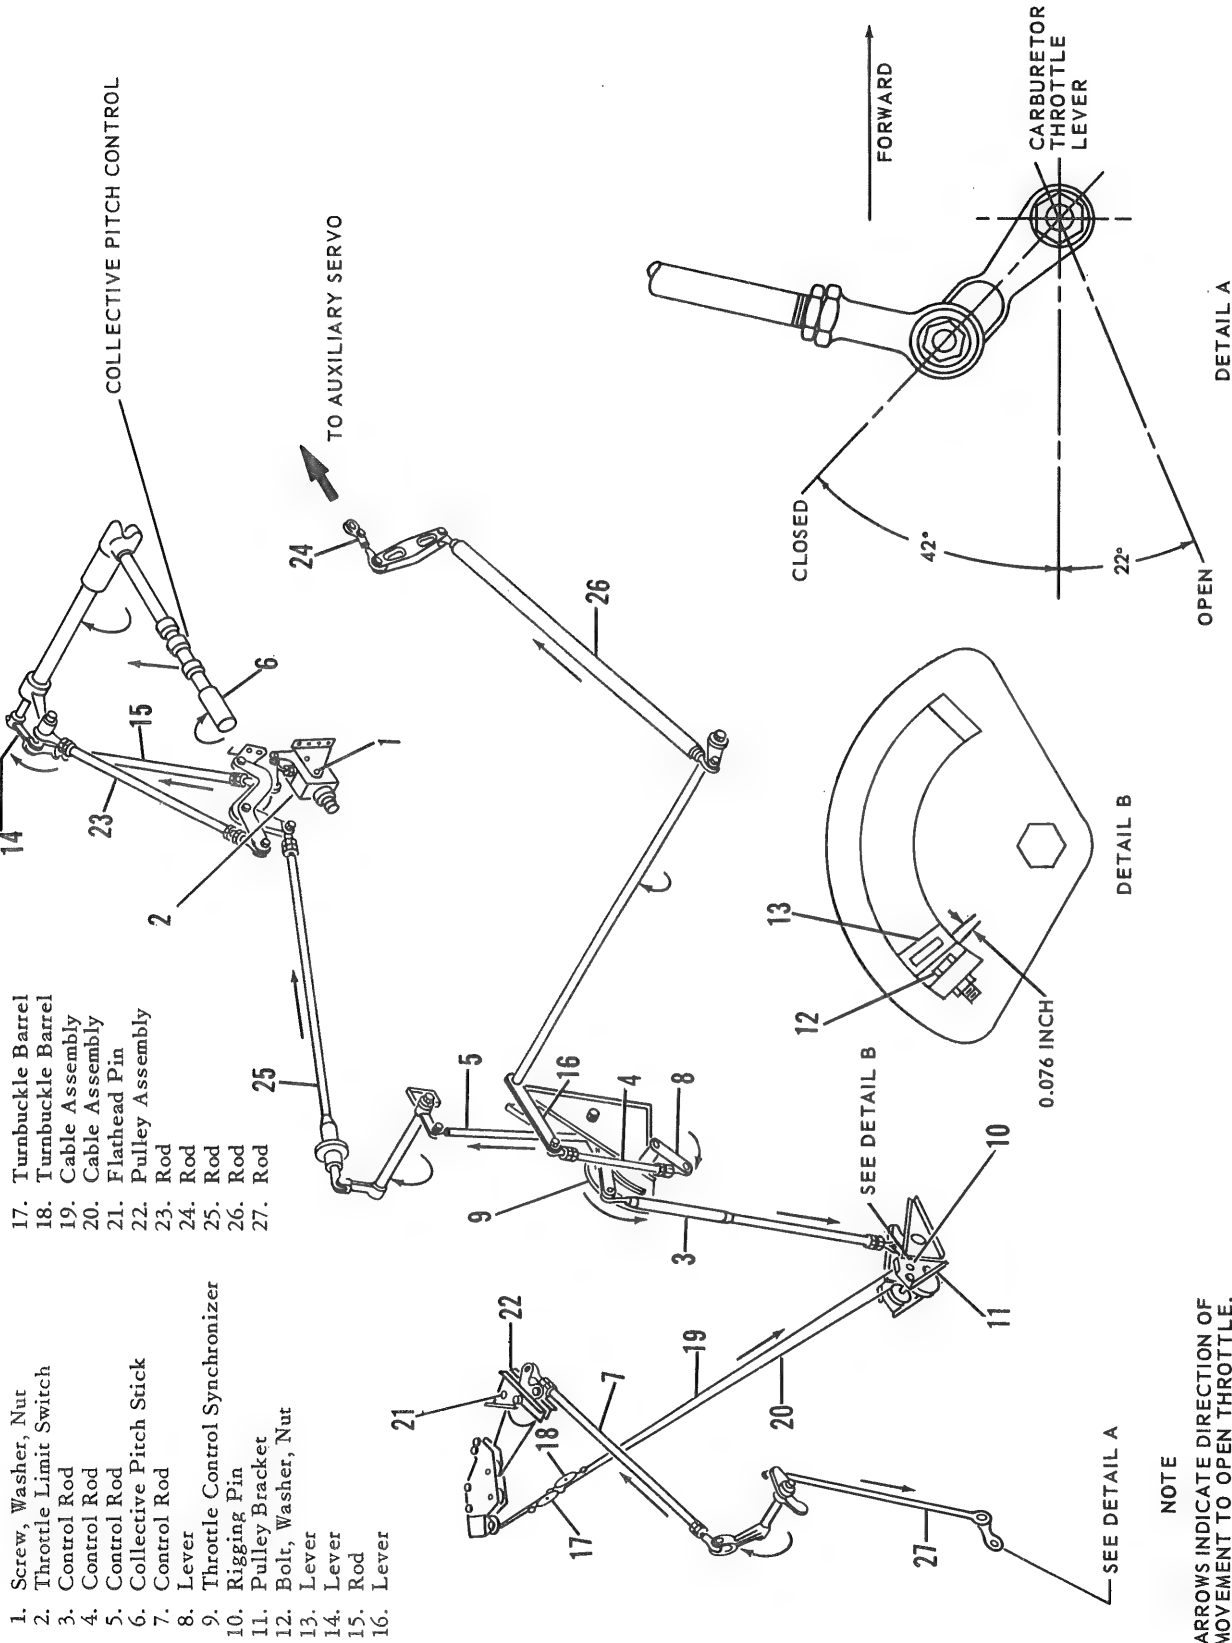

Figure 3-60. Throttle Control System (Helicopters Serial No. Prior to 55-4462)
3-242. THROTTLE CONTROL SYSTEM. (See figures 3-60 and 3-61.)
3-244. THROTTLE LIMIT SWITCH. (See figures 3-60 and 3-62.)
b. Remove screws, washers, and nuts (1, figure 3-60) and remove throttle limit switch (2).
a. Position throttle limit switch (2, figure 3-60) so holes in throttle limit switch align with holes in helicopter structure.
b. Install screws, washers, and nuts (1).
3-251. THROTTLE CONTROL SYNCHRONIZER. (See figures 3-60 and 3-63.)
a. Disconnect and remove control rods (3, 4, and 5, figure 3-60) from throttle control system, as outlined in paragraph 3-206.
b. Connect control rods (3, 4, and 5, figure 3-60).